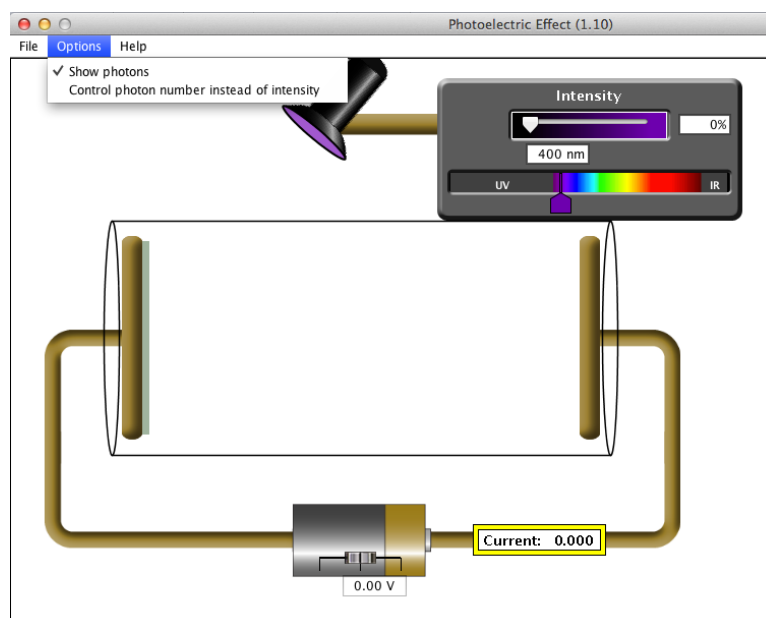

Figure 1
Step 1: Open the simulation. Set the metal to Sodium and the wavelength to 400 nm. In the simulation window's Options menu, select "Show photons" (see Figure 1).